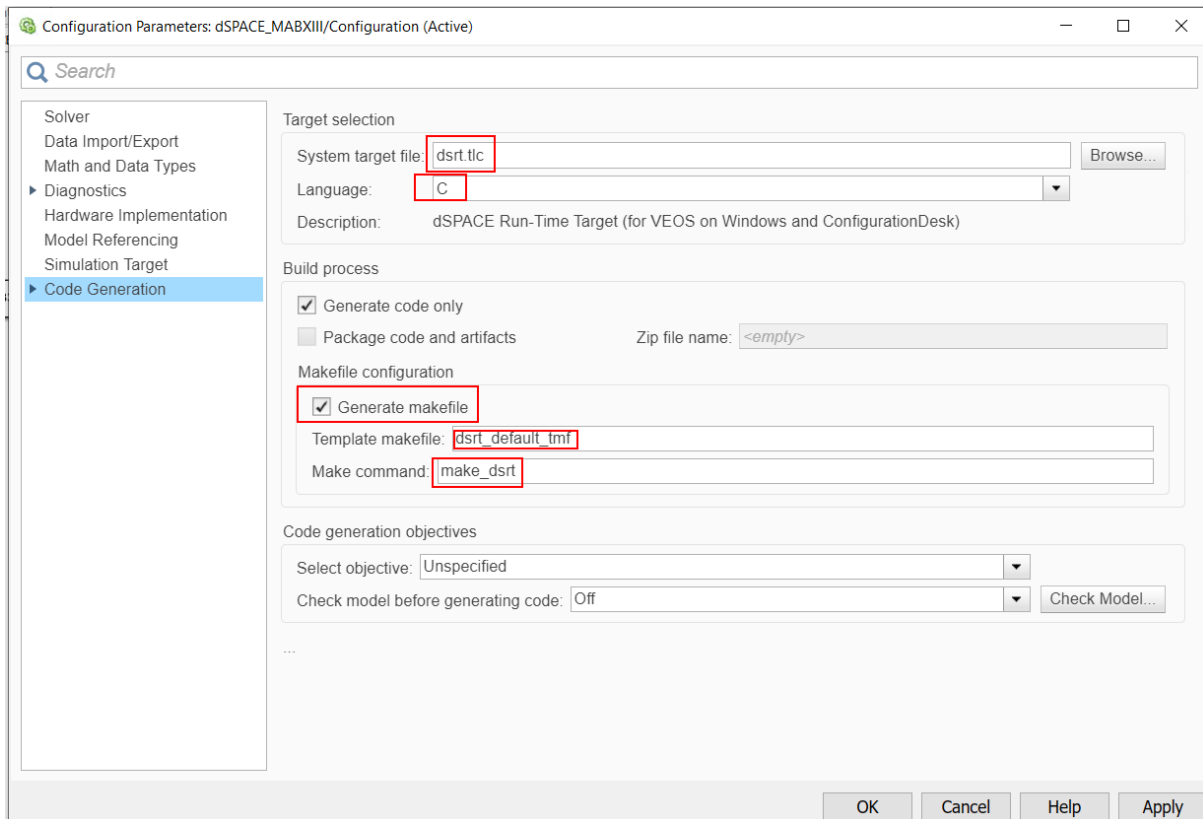

Figure 12.65: Set the Simulink code generation options.
- 9) In the "Code Generation" tab, set the options (see Figure 12.65):